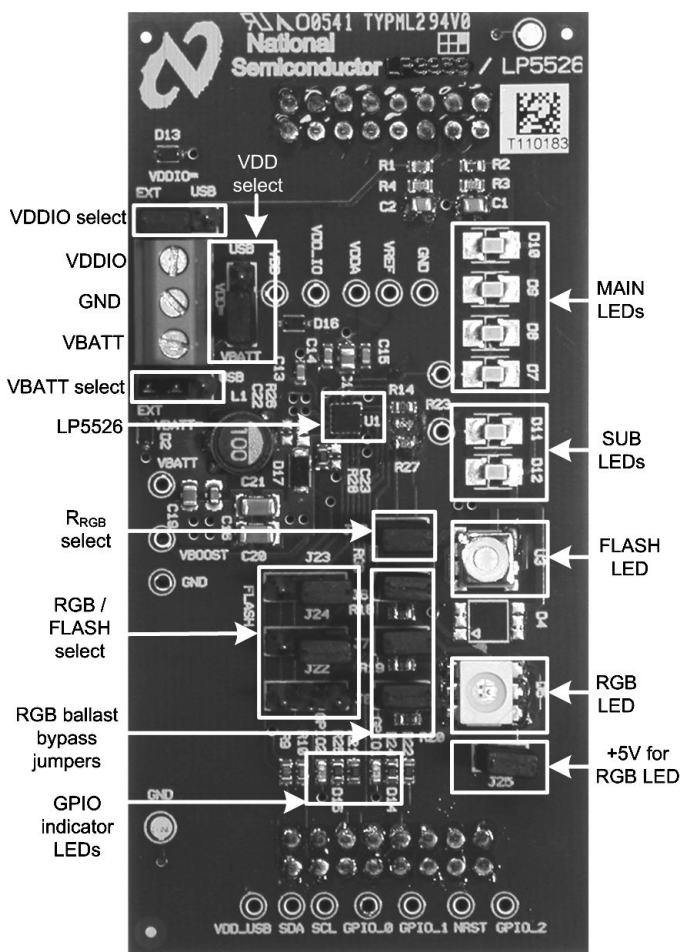

Figure 8. LP5526 Evaluation Board
1. Check the jumpers and switches on the board according to Figure 8. NOTE especially the power connection jumpers: V_{BATT} is connected to external voltage source; USB power should NOT be used unless you are sure that you are not overloading USB supply. Using FLASH LEDs can overload USB supply. V_{DD} and V_{DDIO} are connected to USB.